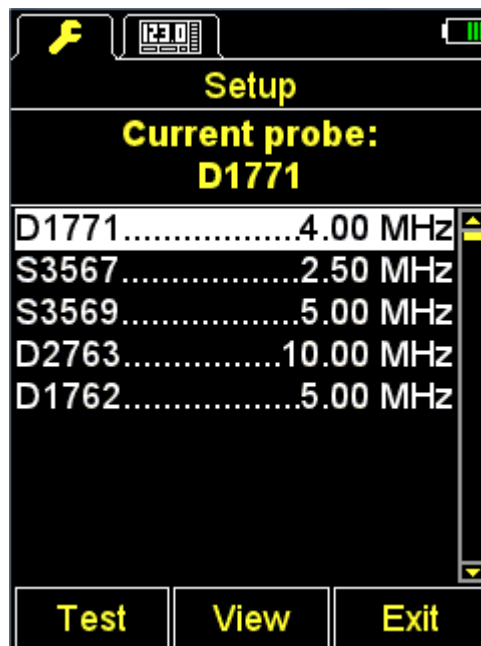

Figure 14
– using the keys   go to the line with the name of the connected PT and press  key to select it (Figure 14).